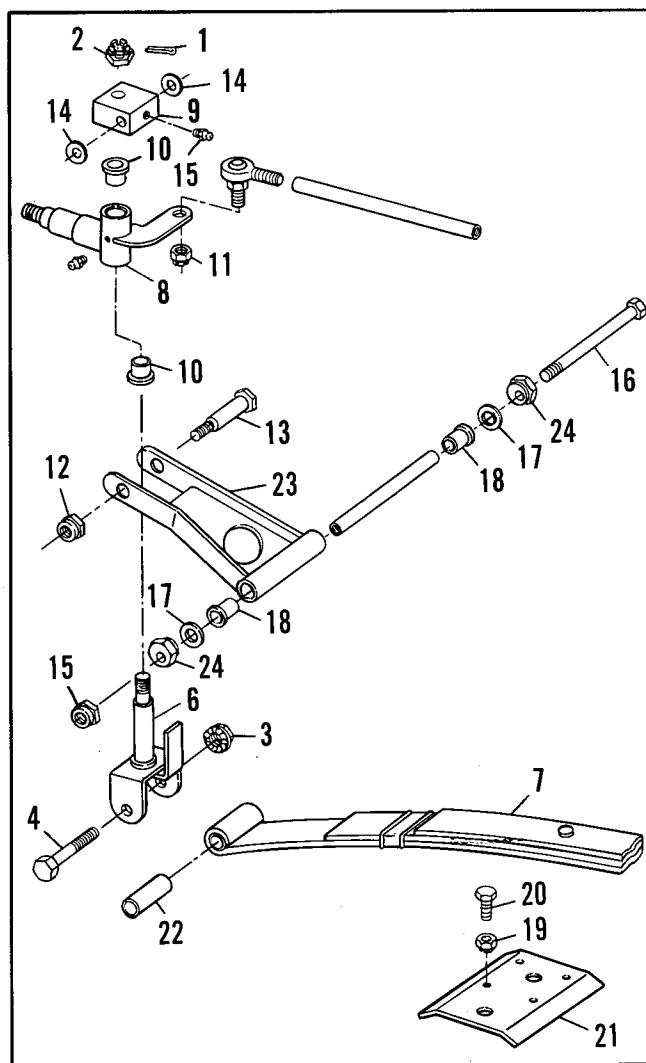

Figure 11 – Leaf Spring, King Pin, Steering Arm and A-Frame Removal
7. LEAF SPRING REMOVAL (Figure 11)
- Remove one nut (3) from one side king pin lower mounting screw (4).
- Pull screw (4) from king pin.
- Remove four nuts (19) and bolts (20), retainer plate leaf spring (21).
- Check condition of sleeve (22) and replace if worn.
9. KING PIN OR STEERING ARM REMOVAL (Figure 11)
- b. Remove cotter pin (1) and nut (2).
- c. Remove one nut (3) and bolt (4).
- d. Pull out king pin (6) to free it from leaf spring (7) and pull king pin down out of steering arm (8) and pivot block (9). Note position of bronze bushings (10). These bushings must be replaced in the same position as removed.
- e. If king pin is worn or damaged, replace king pin and check condition of bushings (10).
- f. Remove locknut (11) and pull tie rod(s) as described in Paragraph 8, this section, to remove steering arm.
10. A-FRAME REMOVAL (Figure 11)
- b. Remove nut (12) and bolt (13). Note position of Delrin washers (14).
- c. Remove nut (15) and bolt (16). Note position of thrust washers (17) and camber adjusters (24).
- d. A-frame (23) can now be removed from car.
- e. Check condition of spacers (18) and thrust washers (17) and replace if worn or damaged.